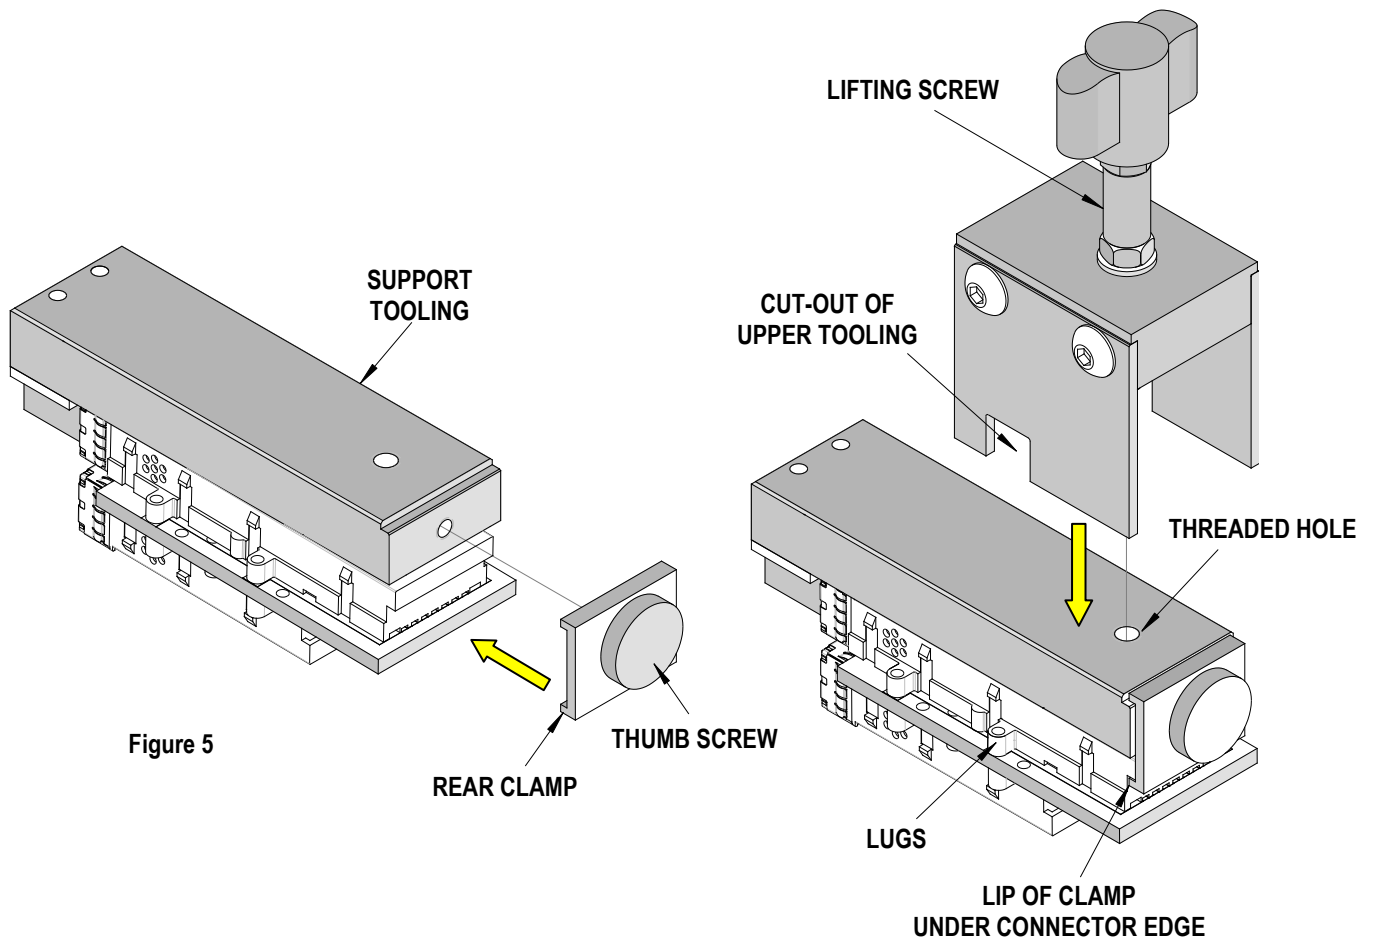

Figure 5
4. Place the rear clamp on the support tooling and tighten the thumb screw. The "lip" of the clamp must engage the edge of the connector. See Figure 5.
5. Place the upper tooling over the support tooling, so the lift screw is inline with the threaded hole in the support tooling and the cut-outs in the sides of the upper tooling clear the lugs of the connector. See Figure 5.